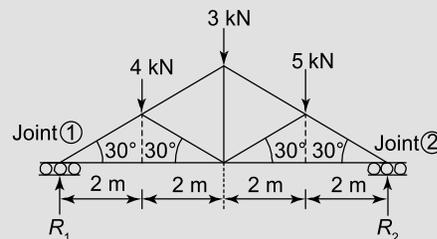

Figure 6.20
**Problem 7.** Determine the internal forces in the pin-jointed truss of Figure 6.20.